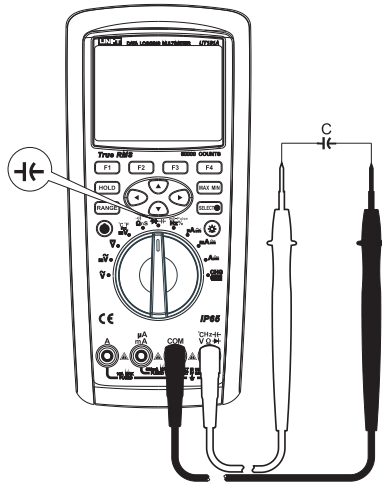

Figure 9
- 2) Set the rotary switch to the measurement \overline{C} , press the key SELECT to select capacitance measurement. Connect the test leads to both ends of the measured capacitance as shown in Figure 9.